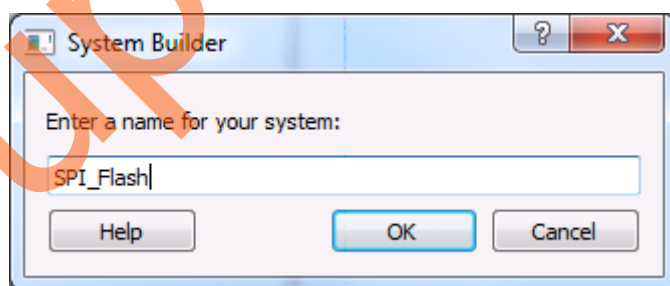

Figure 5 • Create New System Builder Dialog Box
8. **Enter a name for your system**, enter **SPI_Flash** as the name of the system and click **OK**. The **System Builder** dialog box is displayed with the **Device Features** page open by default, as shown in **Figure 5**.